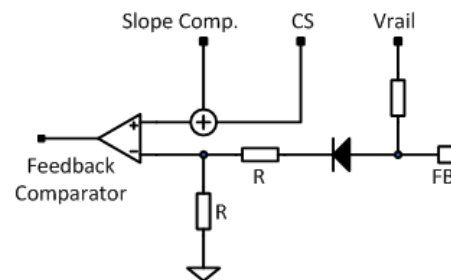

Figure 34. Feedback Pin Internal Behavior Circuit
The Feedback (FB) pin is used for voltage feedback looping. The feedback signal is provided from the secondary-side shunt regulator (TL431) and transfer through the opto-coupler to FB pin of AOZ7523. There is a pull high resistor which is built-in the AOZ7523, as shown in Figure 34. The gain to PWM comparator is 0.5V/V, and with one diode offset. The gain of feedback loop will be decreased due to the large pull high resistor. The design of the feedback compensation circuit should be given extra attention.